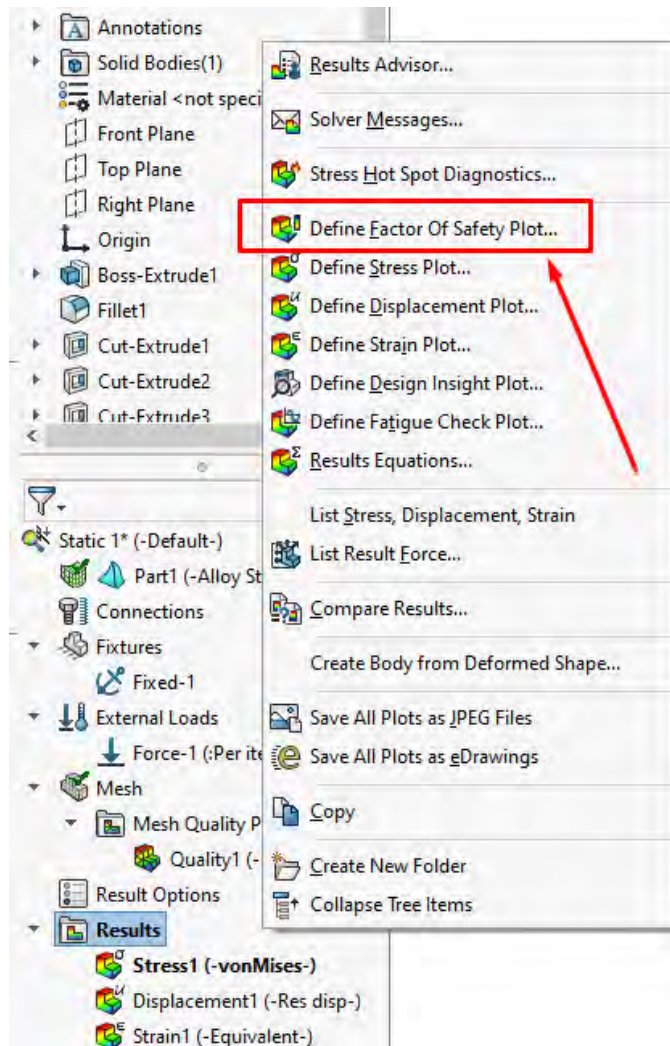

Figure 21 – Selection of the safety factor graph in the research tree
1. In the study tree, right-click the Results folder and select Define Safety Factor Plot. Factor of Safety Plot) (Fig. 21).
- Click the green check mark (OK).